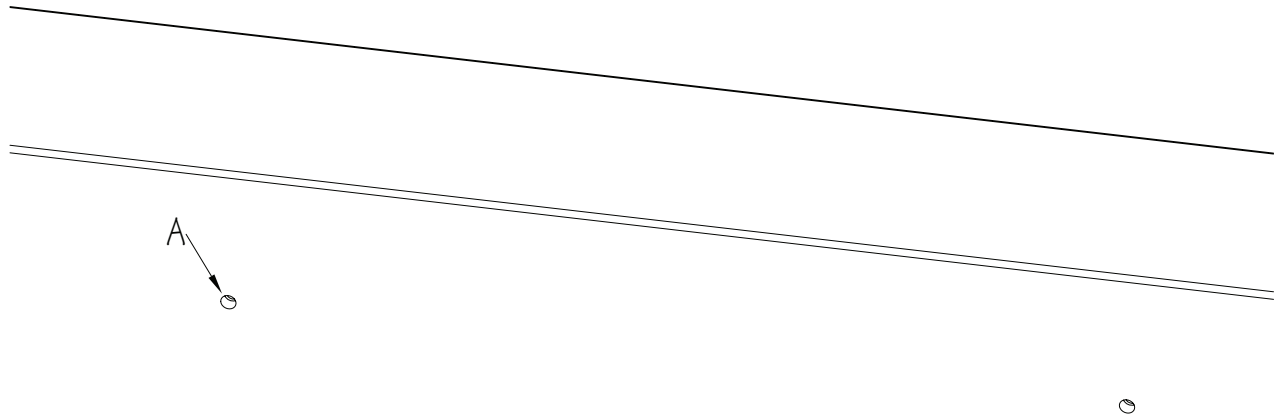

Fig. 14
12. At the top of the pool wall, locate the Rivet Nuts (A), behind the liner, from the grab bar mounting kit. Use a sharp utility knife to cut out the round holes in the liner using the Rivet Nut holes as a template (Fig. 14).